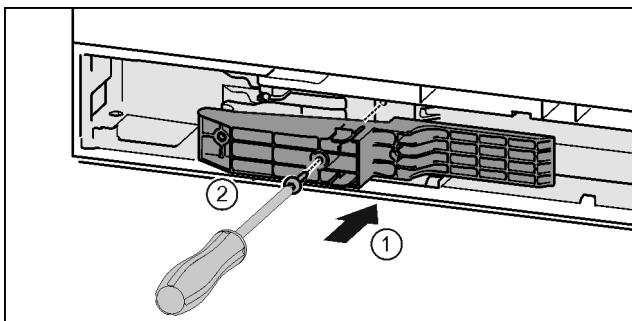

Fig. 43\*
- ▶ Insert the adapter on the handle side in the recess. Fig. 43 (1)\*
- ▶ Tighten the screws using the T15 screwdriver. Fig. 43 (2)\*